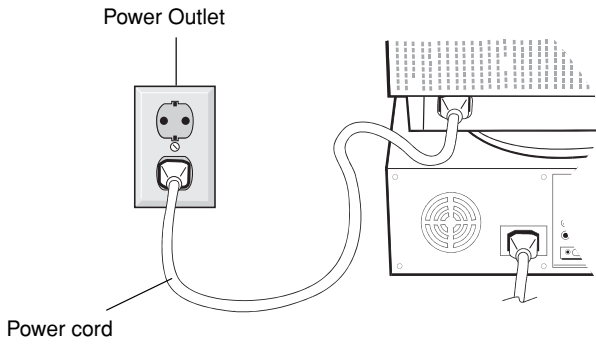

Figure C.1
4. Connect one end of the power cord to the MultiSync V Series monitor and the other end to the power outlet (**Figure C.1**).